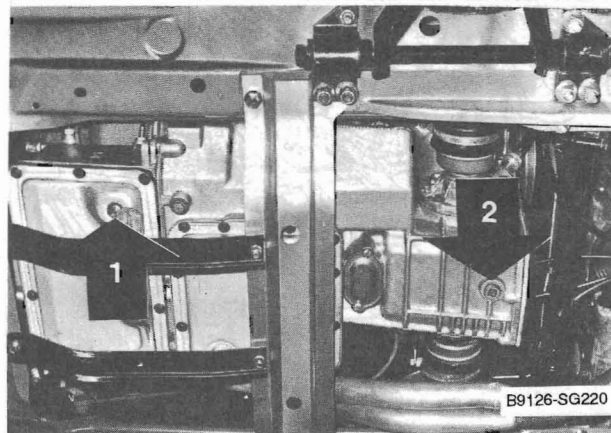

Fig. 21. Automatic transmission fluid drain plug (1). Final drive drain plug is shown at 2.
3. Place a drain pan of at least 10 quarts (10 liters) capacity under the transmission and remove the transmission drain plug. See Fig. 21.